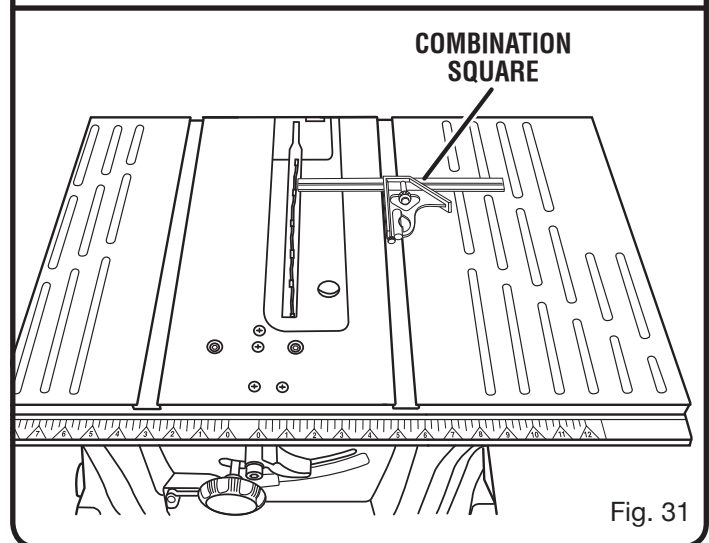

Fig. 31
- Mark beside one of the blade teeth at the front of the blade. Place a combination square even with the front of the saw table and the side of the saw blade as shown in figure 31.